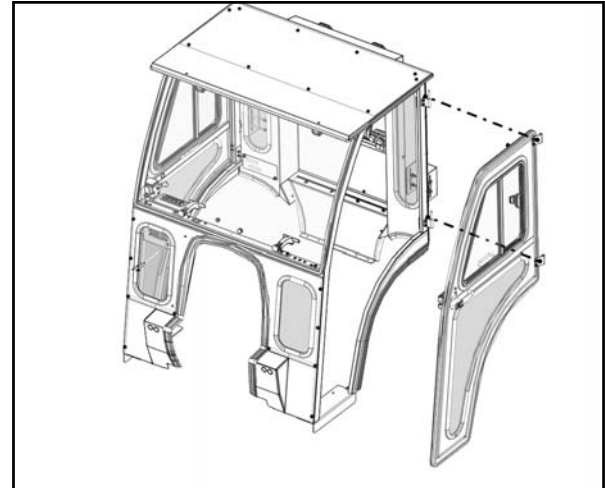

Fig. 11.1 (Door Installation)
**11.1** Grease the hinge pins and re-install the doors into their respective hinge pins located on the side frames. See Fig. 11.1